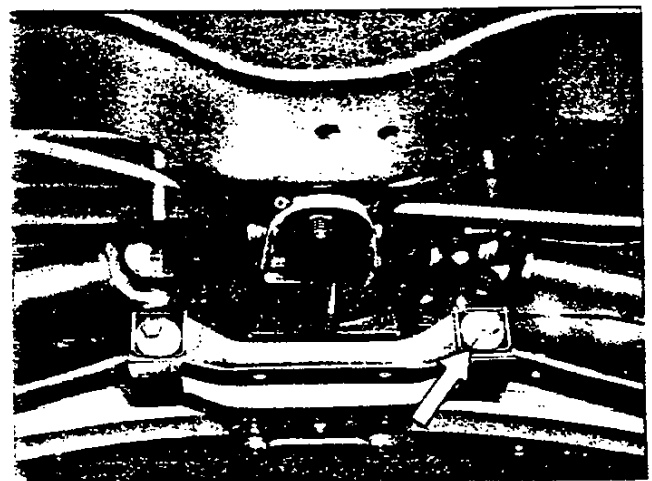

Fig. 14—Marking Camber Cam and Bracket
4. Mark relative position of camber adjusting cam and bracket, so they may be reassembled in same location (fig. 14).